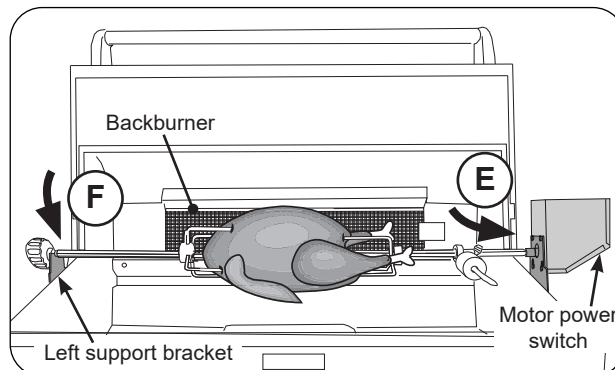

Fig. 38-4 Attach Rotisserie rod to motor
10. Insert the pointed-end of the rod into the motor drive socket (see Fig. 38-4, E). Then rest rod groove (next to the knob) into the left support bracket (see Fig. 38-4, F).